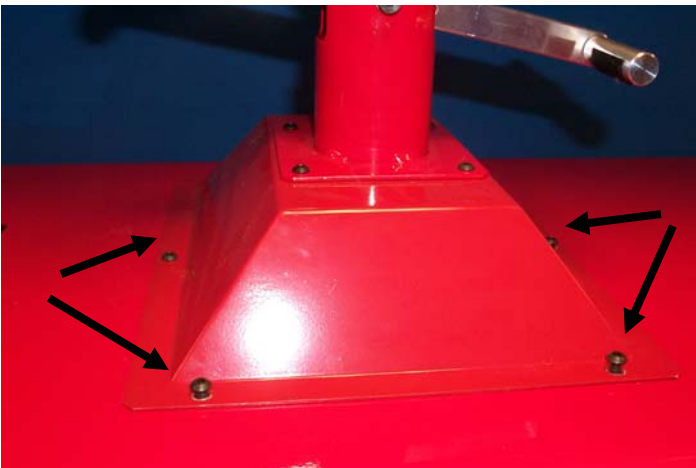

Fig. 1
1. Remove the 6 5/32 allen bolts holding the marquee on (it is a good idea to have another person holding the marquee as you remove the bolts). See fig.1